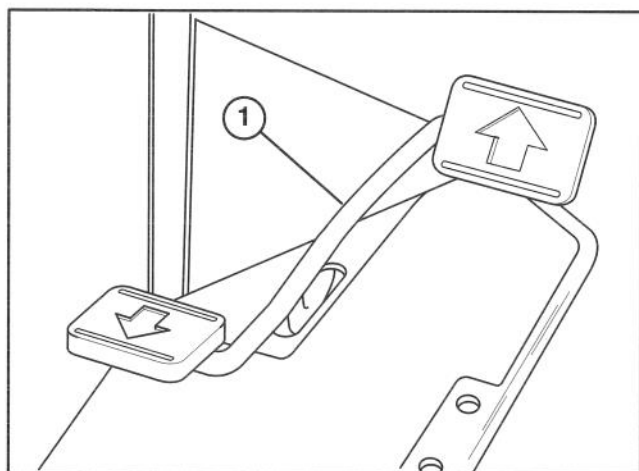
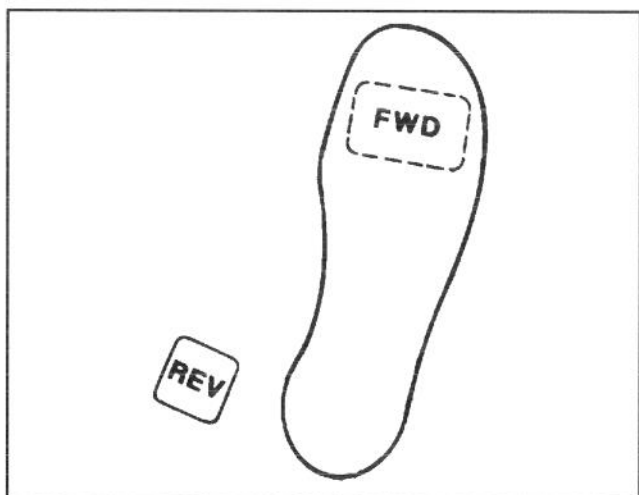

Figure 9
Figure 10
**Traction and Stopping Pedal** (Fig. 9–10) – Traction pedal has three functions: one, to make the machine move forward, two, to move it backward and three, to stop machine. Using the heel and toe of the right foot, depress top of pedal to move forward and bottom of pedal to move backward or to assist in stopping when moving forward. Also, allow pedal to move or move it to neutral position to stop machine. **For operator comfort, do not rest heel of foot on reverse when operating forward** (Fig. 10).